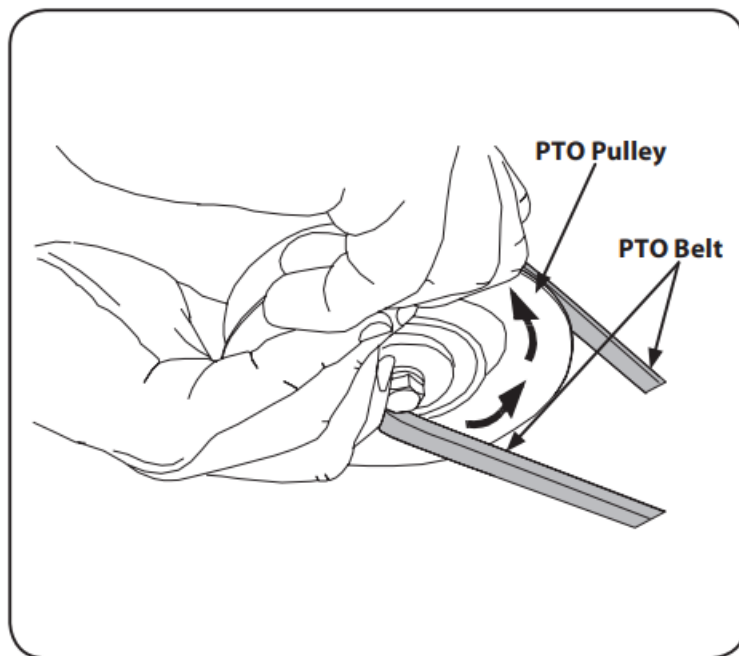

Figure 7-6
8. While holding the belt and pulley together, rotate the pulley to the left. Continue holding and rotating the pulley and belt until the belt is fully rolled into the PTO pulley. See Fig. 7-6.